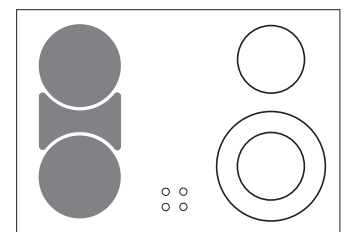

Figure 7
2. Push in and turn the control knob counterclockwise (See Figure 2) for smaller cookware or clockwise (See Figure 7) for larger cookware.
The BRIDGE element may also be used in combination with the left rear single element. Because these elements have 2 different controls, one element can be used to cook while the other element may be used to keep food warm (See Figure 7).